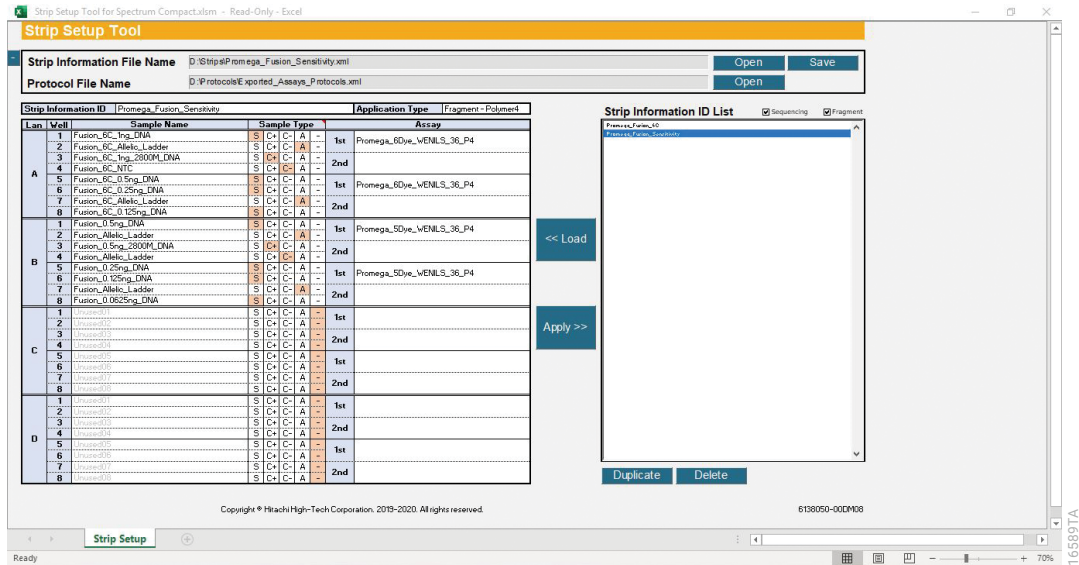

Figure 255. Strip Setup Tool for Spectrum Compact with new strip in Strip Information File Name.
- An asterisk appears in front of the newly created strip file name in the Strip Information ID List prior to saving the strip information as a .xml file. After saving as a .xml file, the asterisk disappears (Figure 255).
- The name and location of the new strip will now appear in the Strip Information File Name cell (Figure 255).